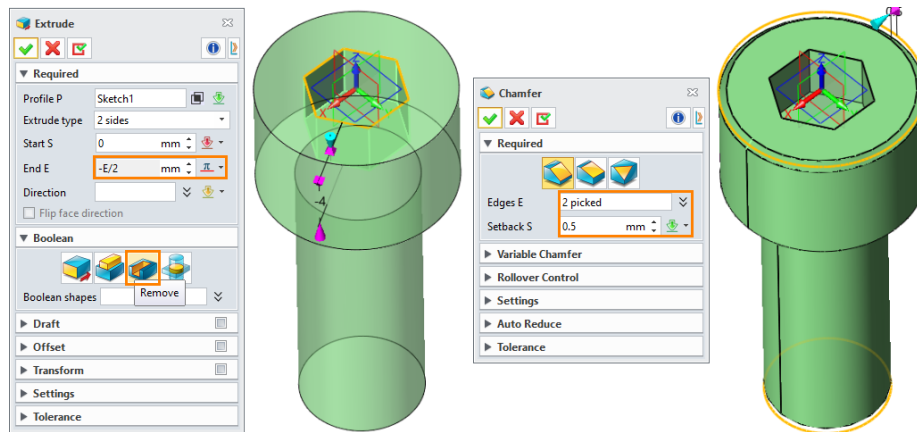

Figure 18 Finishing the Screw Modelling
**STEP 07** **Extrude** the hexagonal sketch with **Remove** in the Boolean shape, set **0** as Start and expression **-E/2** as End, and then add the **Chamfer** with **0.5 mm** Setback, as shown in Figure 18.